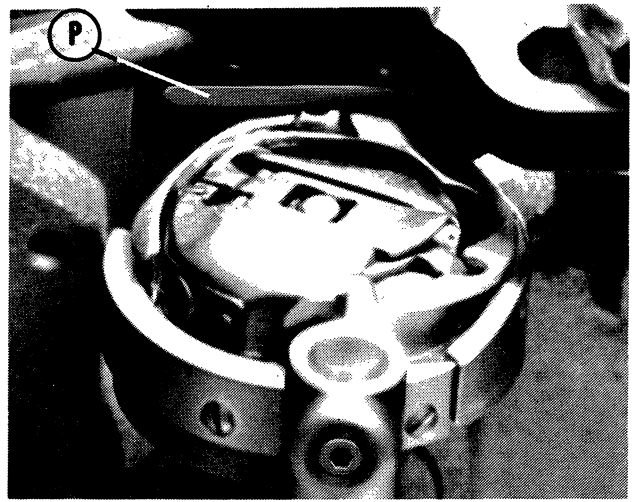

Fig. 8
- (8) When the hook point crosses the needle at a spot  $1/16$ " (1.5mm) above the eye of the needle, securely tighten the two screws (7 and 8) in the hub of the gear (14).
- (9) Be certain that the position screw (7) is in the groove in the shaft.
- (10) Make sure that the timing marks mentioned in (5) above are matched when the hook is correctly timed. Then replace the arm shaft connection belt.
First, observe that needle bar is correctly set by referring to the instructions in a following chapter (page 8). To determine whether the hook is correctly timed, first remove from machine presser feet, throat plate, slide plate, feed dog, bobbin case and the position finger (P) for the bobbin case holder (Fig. 8). Insert a new needle into the needle bar, turn over handwheel until the needle bar is about to rise from its lowest point. Allow needle bar to rise  $3/32$ " (2.5mm) from this lowest position. At this juncture the point of the rotating loop taker should cross the center of the needle  $1/16$ " (2.5mm) above the eye.